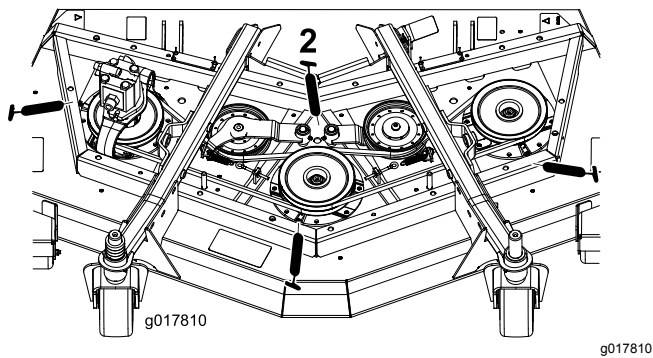

Figure 63
- Spindle shaft bearings (3) (located under the pulley) (Figure 63)
- Idler arm pivot bushings (2) (Figure 63)